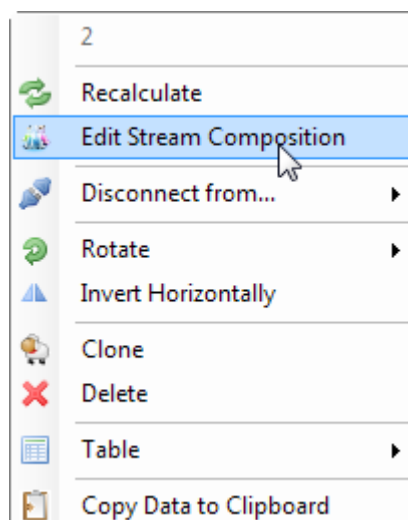

Figure 16: Selected object context menu.
- Through the context menu activated with a right mouse button click over the object (Figure 16);
**Removing objects from the flowsheet** The selected object can be removed from the flowsheet by pressing the DEL keyboard button or by using the context menu - "Delete" item (Figure 16).